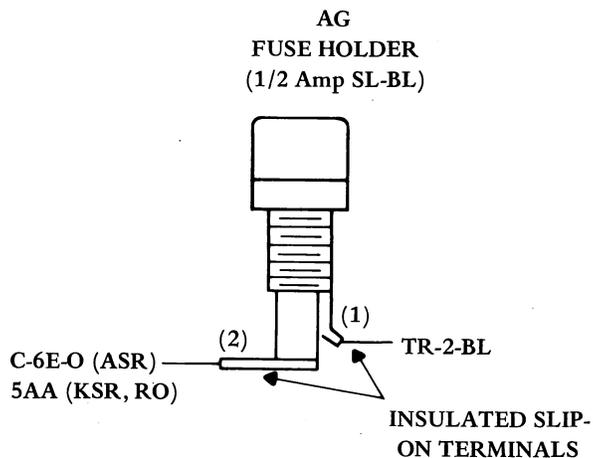

Figure 3 - Fuse Holder (AG)
- (d) Connect fuse (Figure 3). Use two insulated slip on terminals on transformer cable assembly TP336498 for the fuse.